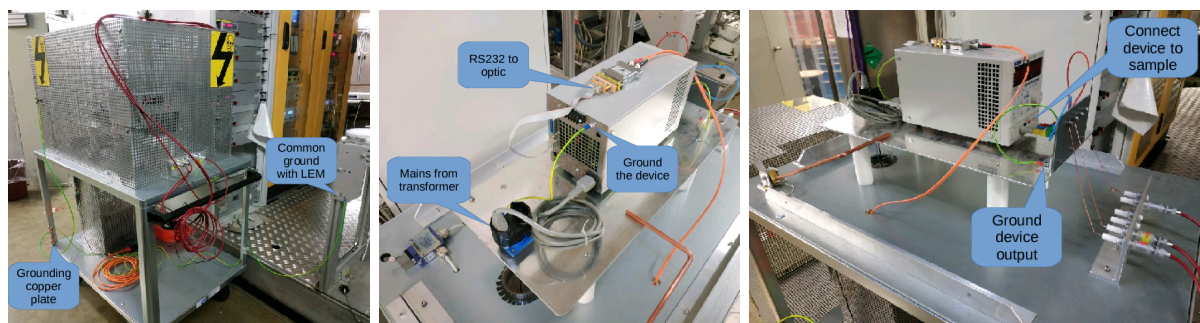

Figure 8.2: (left) Grounding connections. (center) Device grounding, power and communication. (right) Grounding connections.
- Start by making sure that the mesh cage is connected to the grounding copper plate at the bottom of the trolley, as shown in Fig. 8.2. Connect the copper plate to the platform of the spectrometer to make sure that the whole HV table is properly grounded.
- Remove the cage from the trolley and place the device that you want to use on the HV platform (Fig. 8.2). Currently, only serial RS232 devices are supported and only the current/voltage power supply TTi QL564P have been tested. Please do not connect any other device before consulting with your local contact.
- Connect the metal body of the device to the aluminium HV platform (Fig. 8.2(center)). If relevant/available, also connect the ground output port to the HV platform (Fig. 8.2(center)) to make sure that the output of the device is biased at the same HV as the sample.
- Connect the RS232 to optic box to the RS232 port of the device (Fig. 8.2(center))